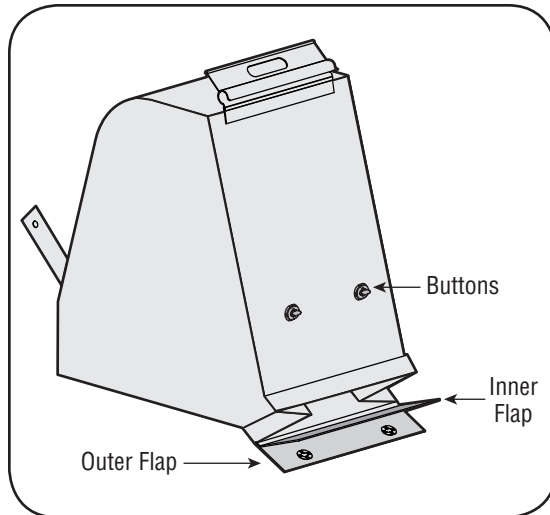

Figure 4-4
2. Twist the two buttons on the back of the bag to unlock and empty contents. See Figure 4-4. Hold bag handle and bag clip while emptying the contents.
4. Fold outer flap over inner flap and insert buttons on the bag through metal outlets. See Figure 4-4.